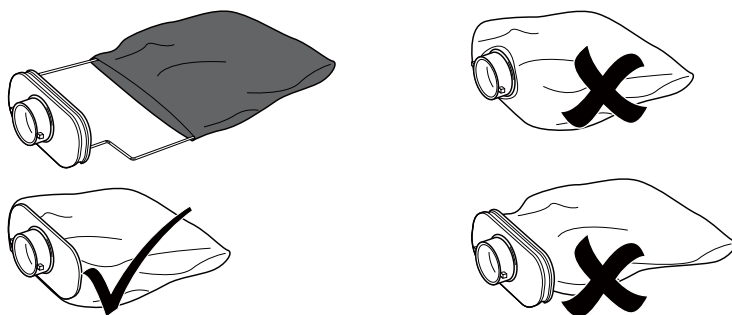

Fig. 4
- > Re-fit the dust bag (4) to the connector (4a), ensuring that the elasticated collar is correctly located (Fig.4) and re-attach it to the product.